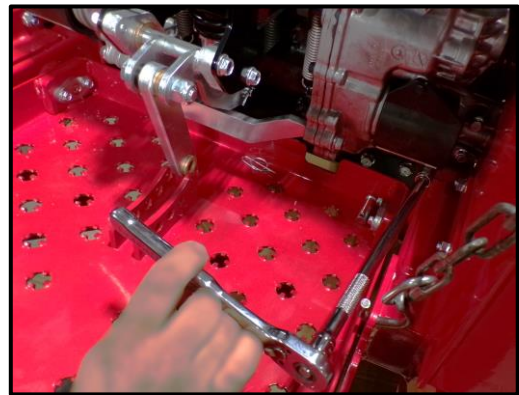

Figure 4 Filter Guard on Machine
10. Remove the filter guards [Figure 4] using a 3/8" socket, extension, and ratchet as shown.